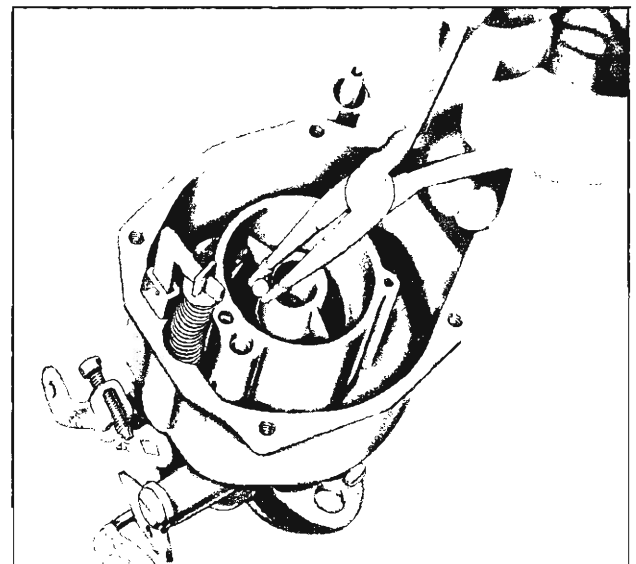

Fig. 14—Installing Pump Discharge Ball
5. Drop large steel ball into pump discharge cavity of bowl and place bronze color spring on top of ball (fig. 14).